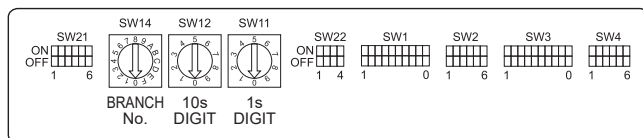

Fig. 4-9
4.5. Setting addresses (Fig. 4-9)
4.6. Sensing room temperature with the built-in sensor in a remote controller (Fig. 4-9)
4.7. Switch setting for high ceiling (Fig. 4-9)
4.8. Switch setting for i-See sensor (Fig. 4-9)
4.9. Switch setting for horizontal airflow direction (Fig. 4-9)